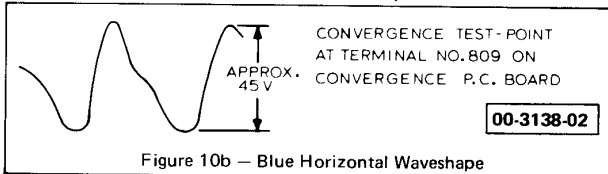

Figure 10b - Blue Horizontal Waveshape
11. BLUE HORIZONTAL SHAPING COIL (see figure 10b)